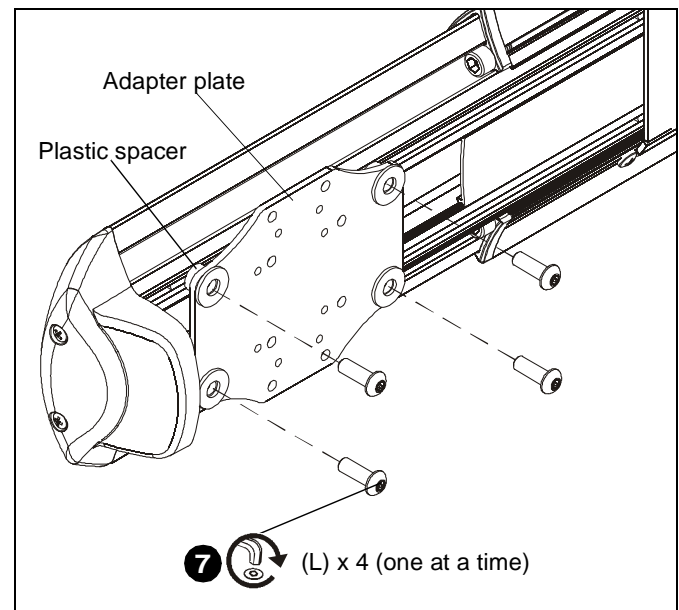

Figure 32
- Install one 1/4-20 x 3/4" button head security screw (L) into hole vacated by removing bolt in Step 6 and into plastic spacer. (See Figure 32)